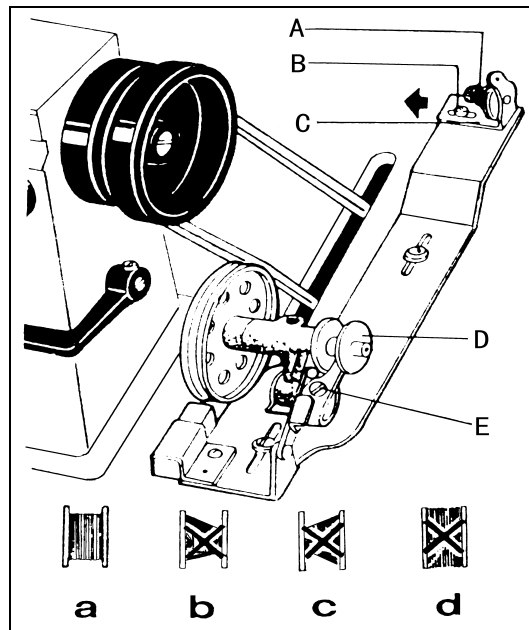

Fig. 8
9. WINDING ADJUSTMENT (Fig.8)
2) When the wound thread layer does not present a cylindrical shape as shown in Fig.8 (a), loosen Set Screw (B) of bobbin winder tension bracket and slide Bracket (C) leftward or rightward. If thread is wound as shown in Fig.8 (b), move the bracket rightward, but if thread is wound as shown in Fig.8 (c), move the bracket leftward.